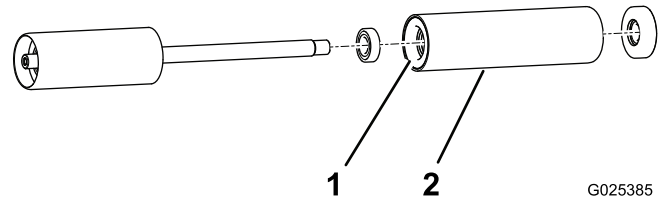

Figure 4
- Use a press to remove all of the components out of the inside of each roller tube, except the inner bearing housing (Figure 4).